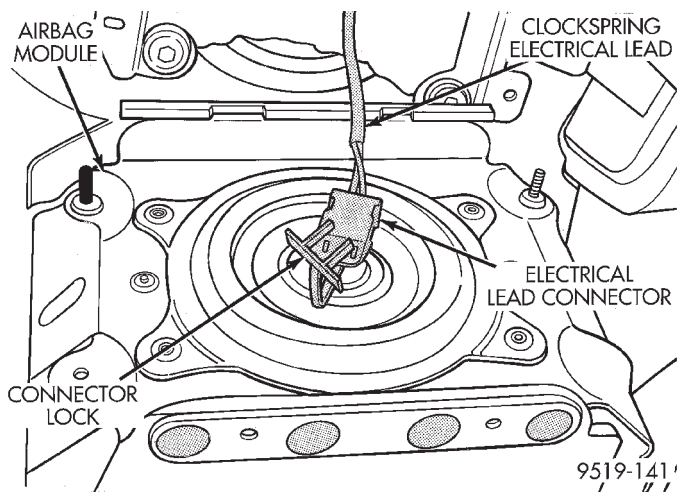

Fig. 8 Air Bag Module Electrical Lead
(10) Remove air bag module from center of steering wheel.
(11) Remove lock from clockspring air bag electrical lead connector (Fig. 8). Then disconnect clockspring electrical lead connector from the back of the air bag module (Fig. 8).